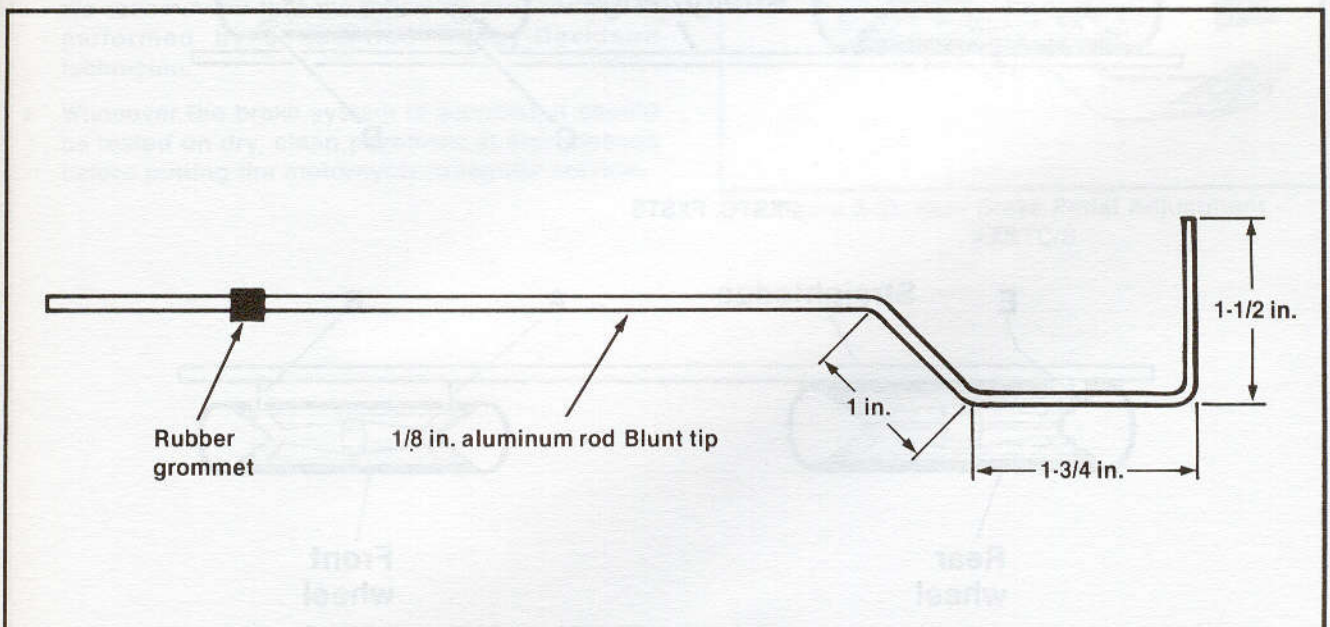

Figure 2-33. Alignment Gauge
1. See Figure 2-33. Make a gauge from 1/8 in. x 25 in. long aluminum welding rod, as shown.
See Figure 2-33. Remove cotter pin (1) and remove brake rod clevis pin (2). Loosen jam nut (3). Turn clevis (4) in or out to obtain a pedal to footrest relationship of 0.26 - 0.50 in. Install brake rod clevis pin (2) and a new cotter pin (1).